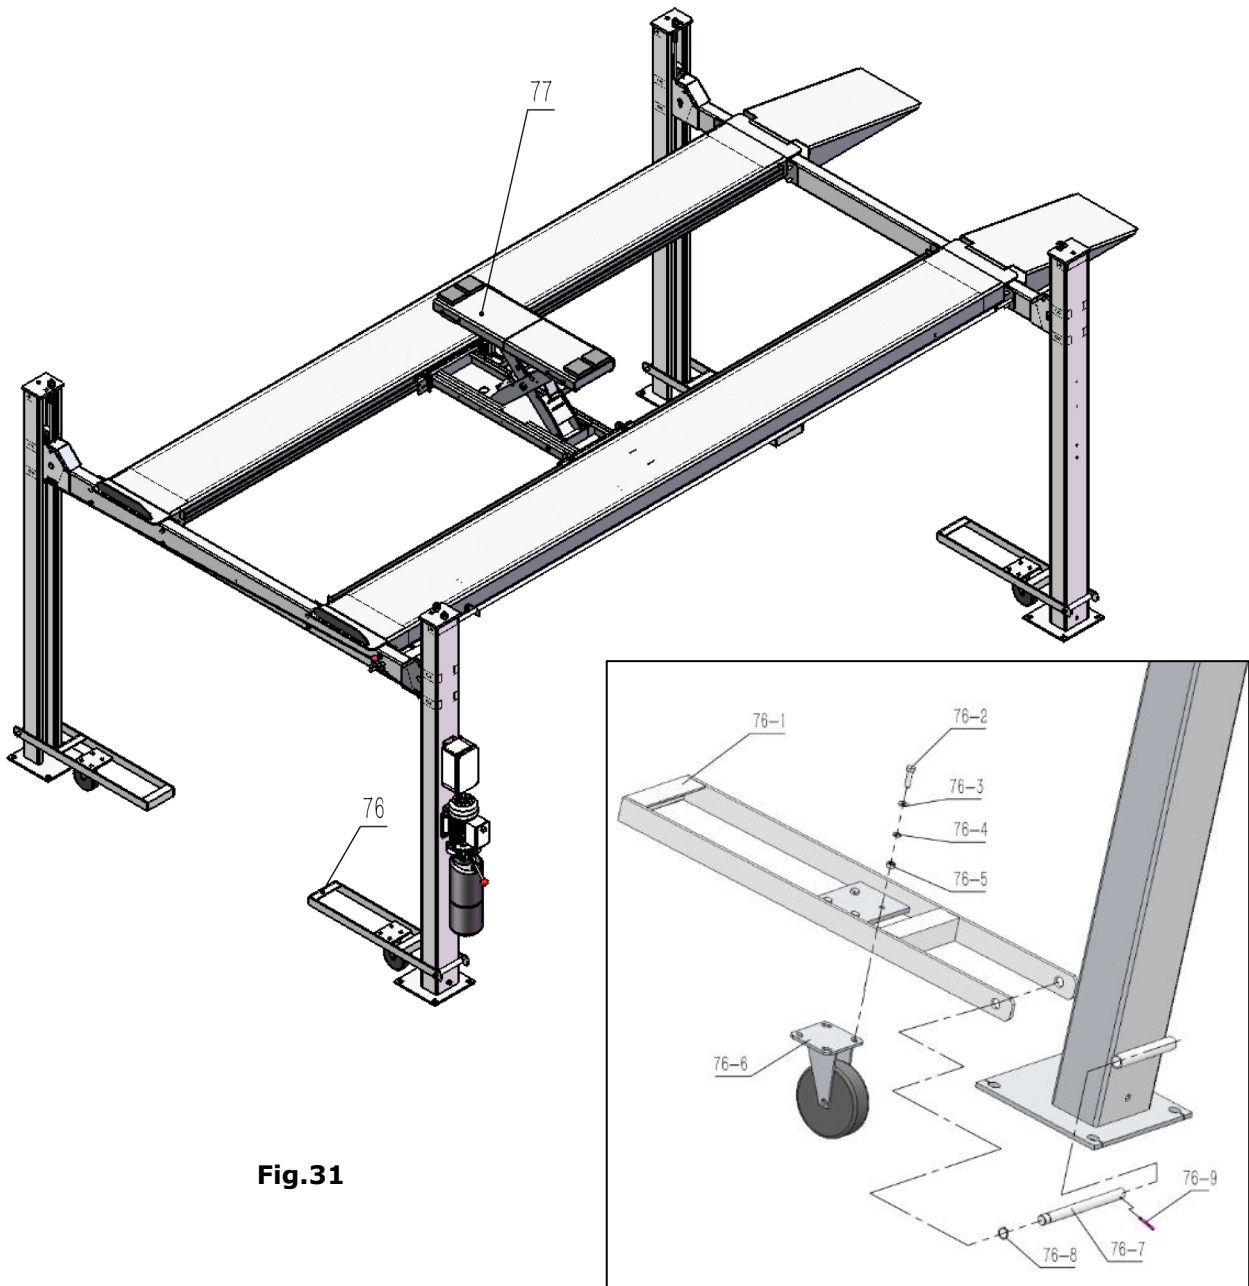

Fig.31
1. Install optional caster kits or jack(assembly body)-----optional (**See Fig. 31**)